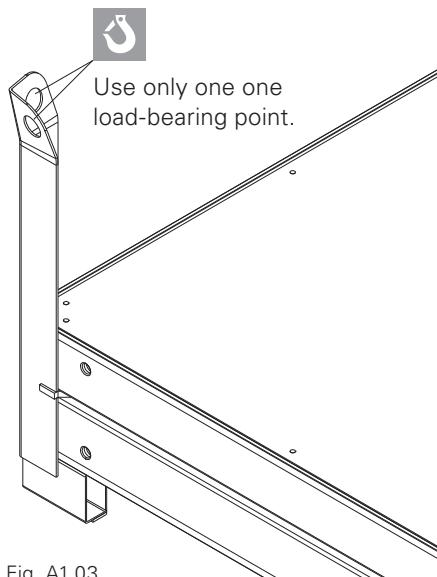

Fig. A1.03
2. Place the second panel with the formlining facing upwards in the stacking device. (Fig. A1.03)
3. Position Stacking Aid MX (2) – 2 per longitudinal side.